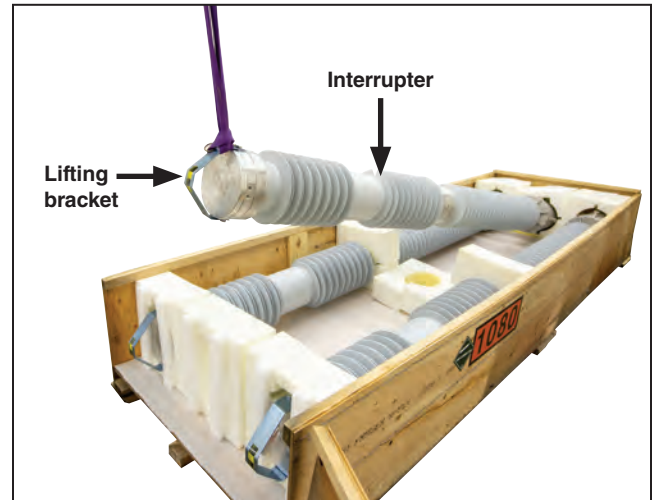
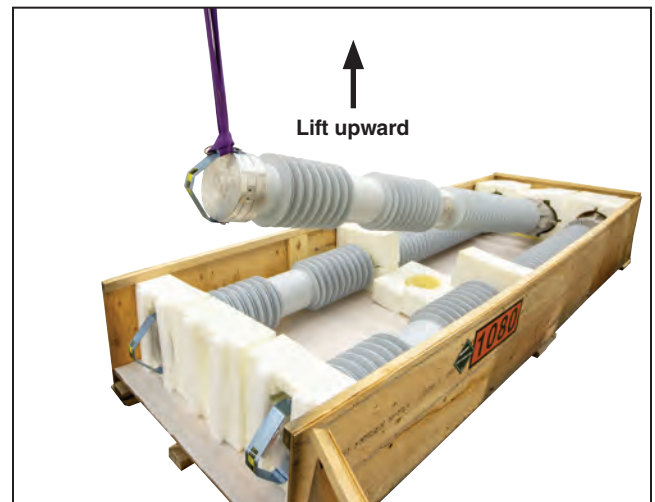
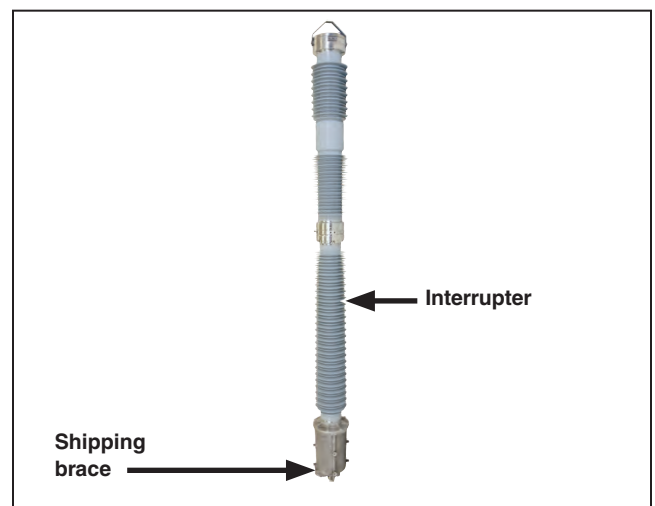

Figure 4. Lift the interrupter only by the lifting bracket.
Figure 5. Lift the interrupter carefully upward.
Figure 6. An interrupter with wrappings removed.
- (b) Carefully raise the interrupter upward. The foam wrappings around the top, mid-section, and base should come off as the interrupter is being lifted. Remove these wrappings if they do not come off by themselves. Do not remove the shipping brace at this time. See Figure 4, Figure 5, and Figure 6.